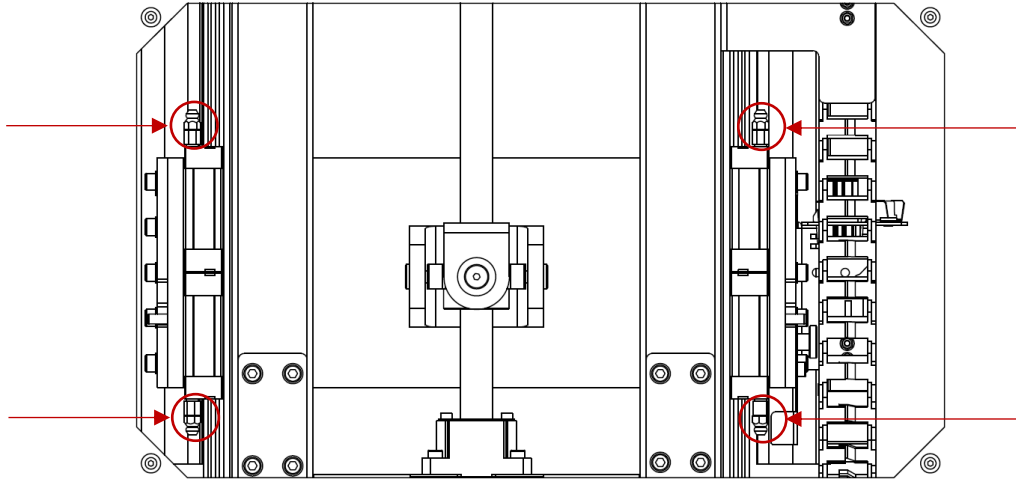

Fig. 97 Lubricating nipples for Z axis linear carriages
6. Locate the 4 grease nipples of the linear carriages (Fig. 97) through the inspection opening.